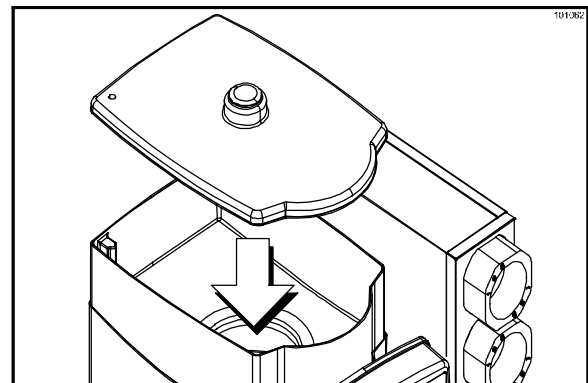

Figure 181
2. Reinstall the ice hopper cover. (See Figure 181.)